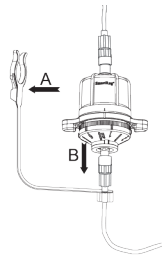

Figure 5
- a. Pull the Clamp of the Lock-Guard from the red locking ring and pull the Adjusting Ring out of the hub (see Figure 5).